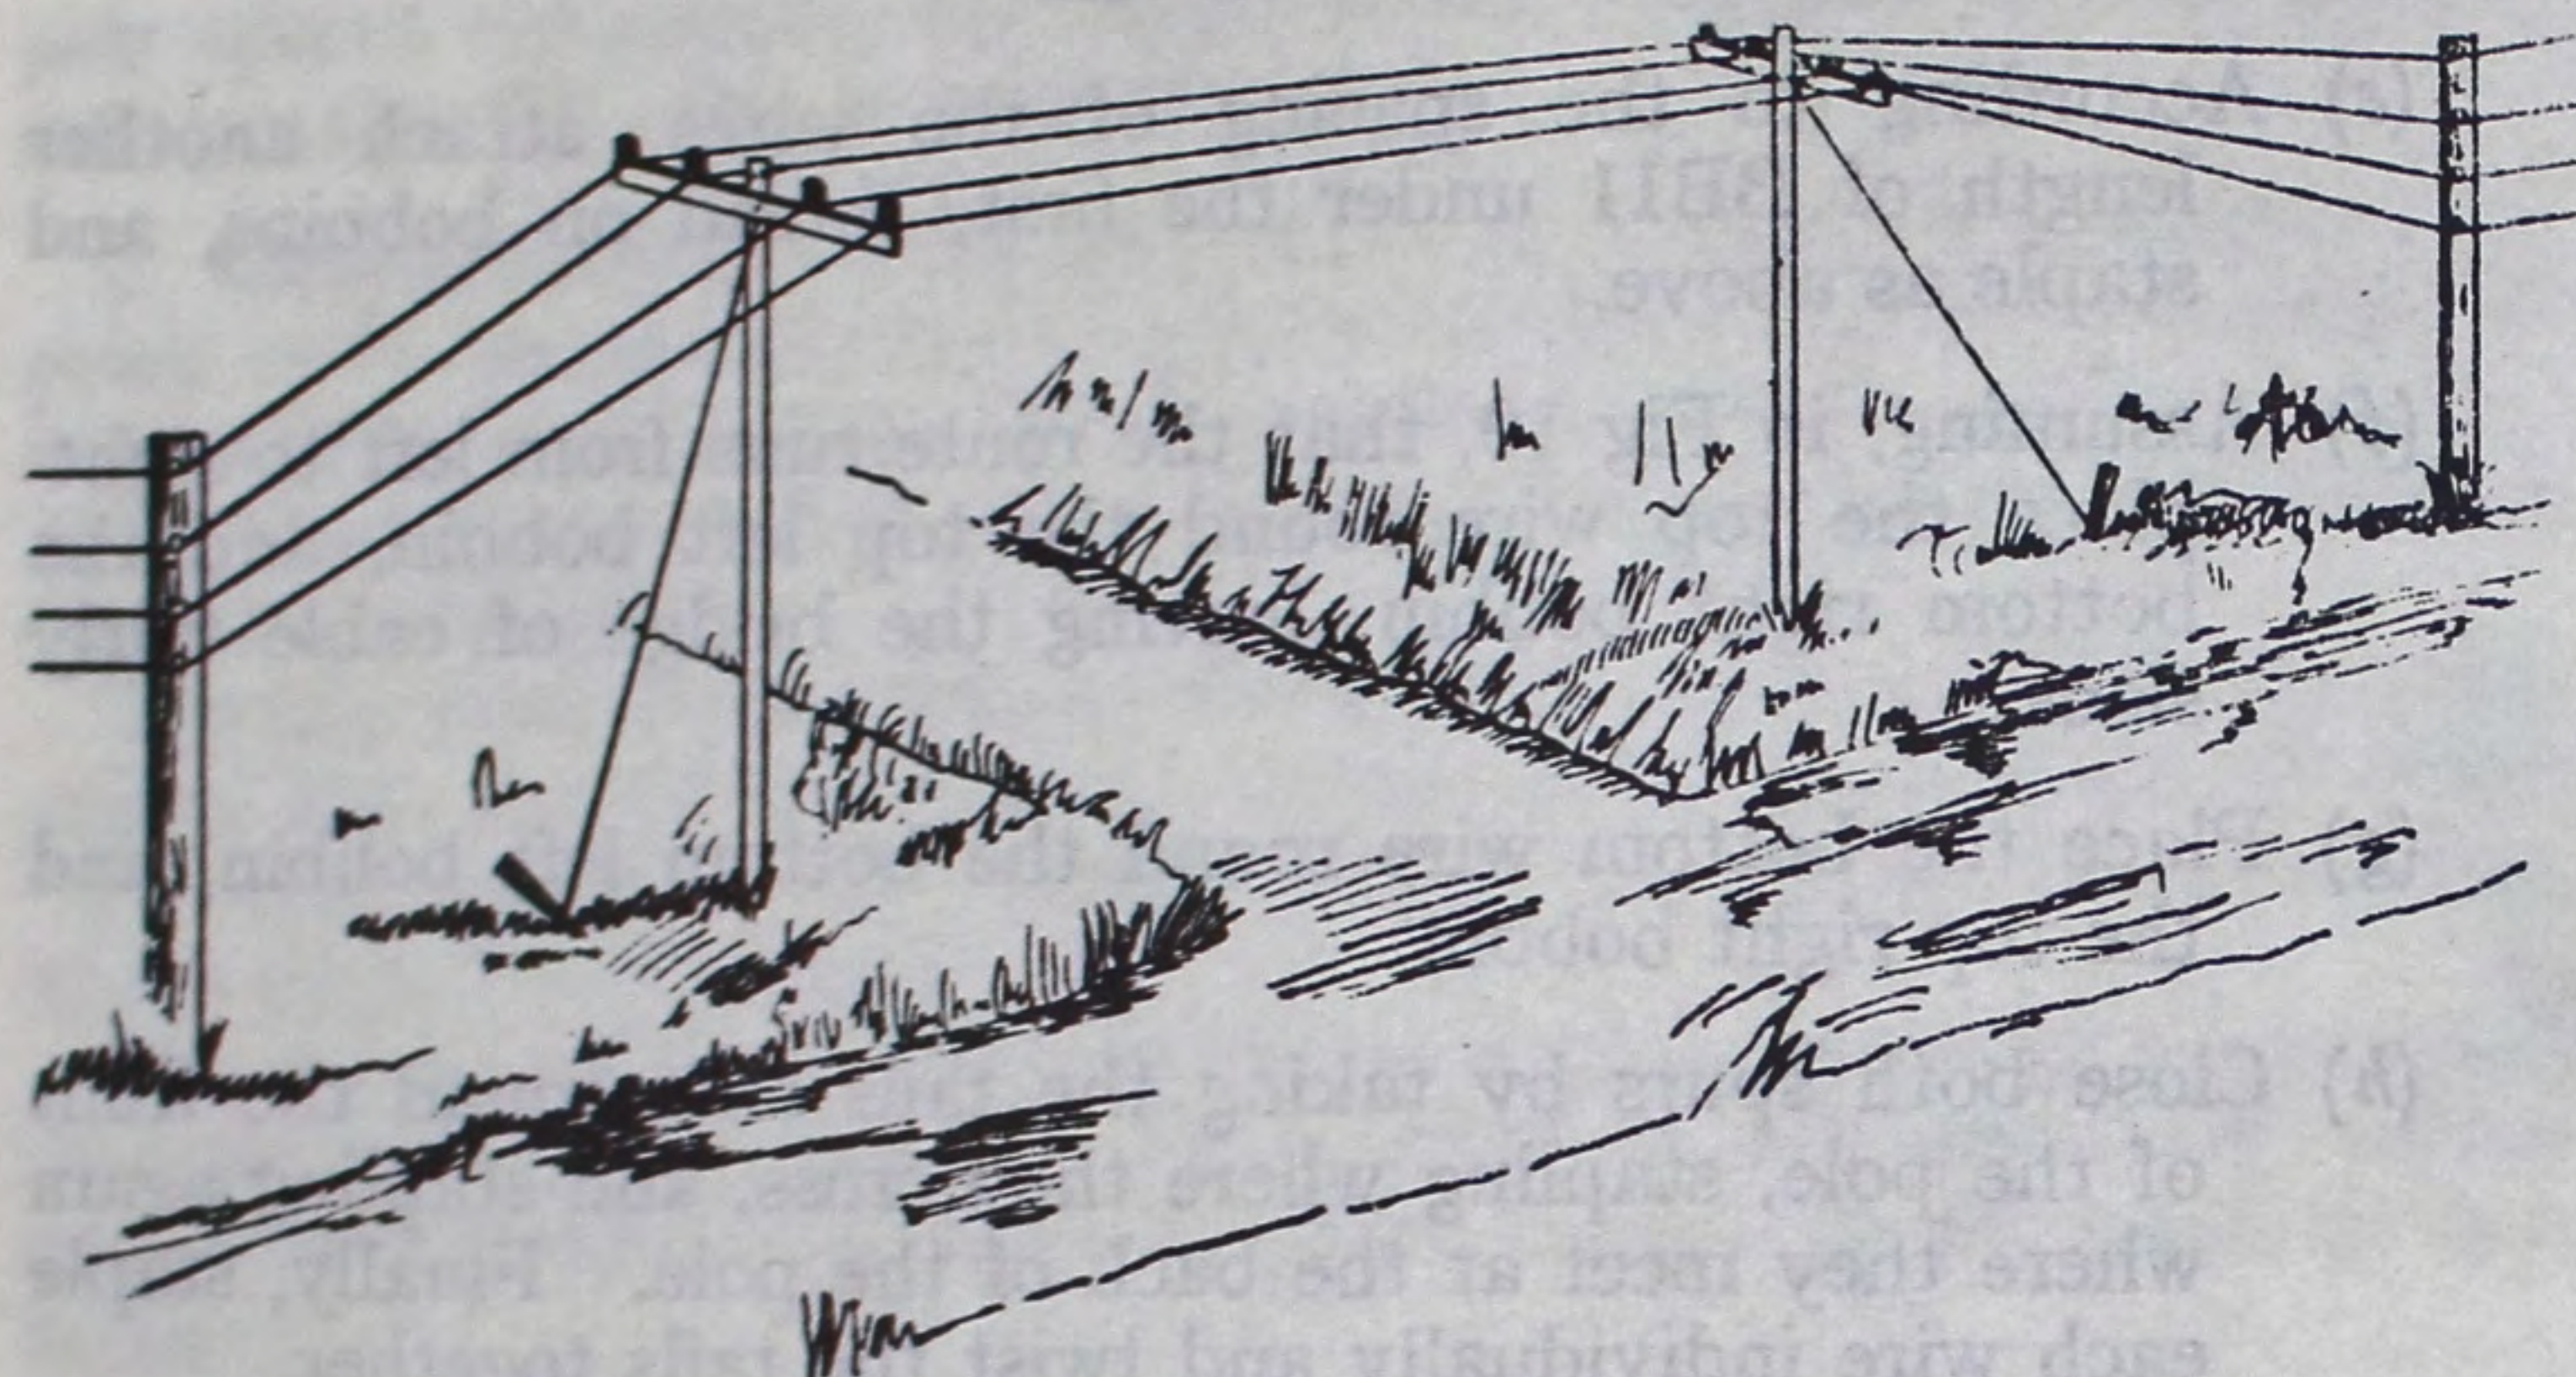

Fig 11.—Using cross arms to obtain extra height
5. Crossings.—When building more than one pair of spaced "D" class cable, double poles will be necessary at most crossings in order to obtain minimum clearances. They can sometimes be avoided, however, by taking full advantage of high ground near the road and by fixing cross-arms to the two poles on either side of the crossing and changing the plane of the wires from the vertical to the horizontal, as shown in Fig 11.